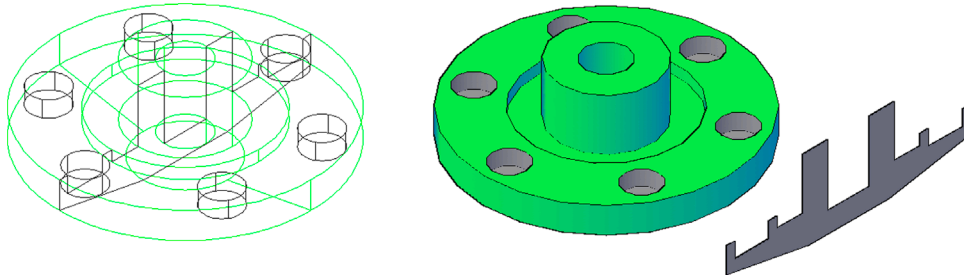

FIGURE 27.7 Completed section.
Step 4. Select the lower quadrant, also similar to the slice example. The section is created. You may have to switch to wire-frame to see it, as shown on the left-hand side of Fig. 27.7. On the right-hand side the section is moved outside the 3D part, and both are shaded.